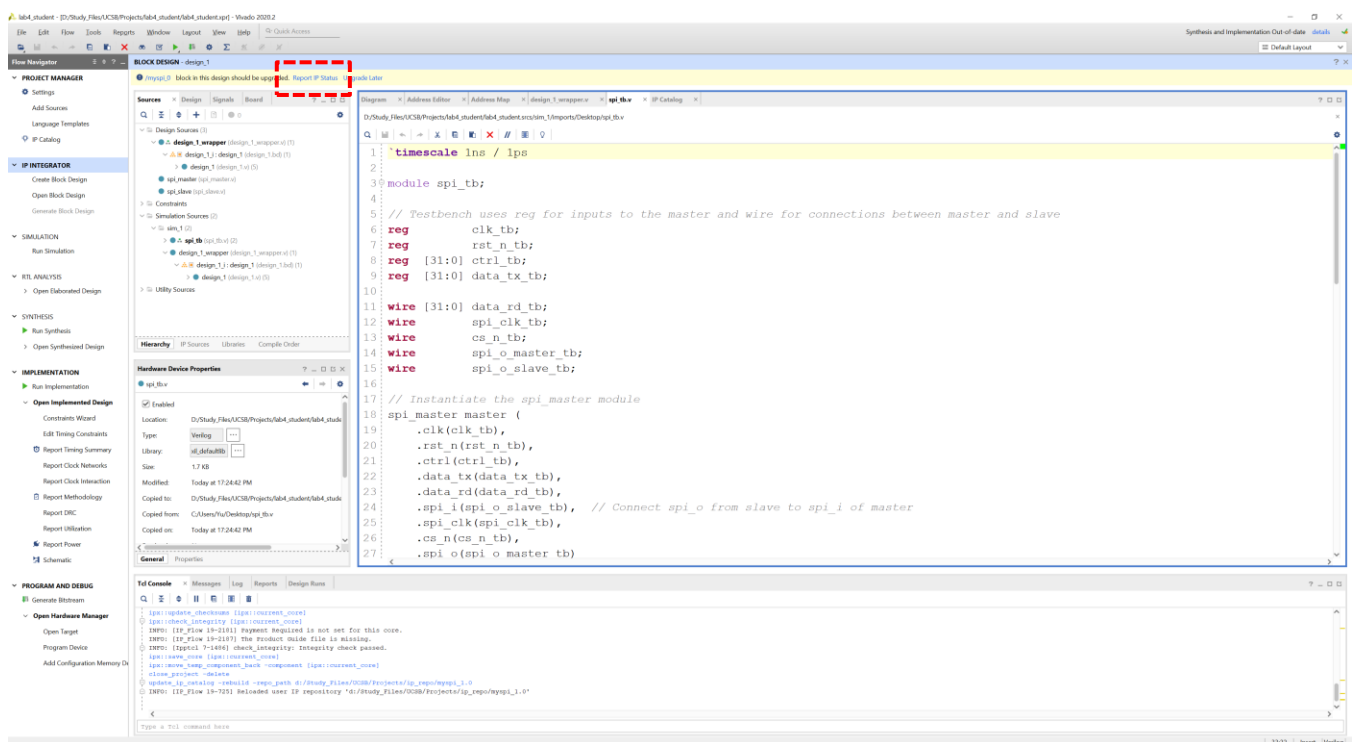
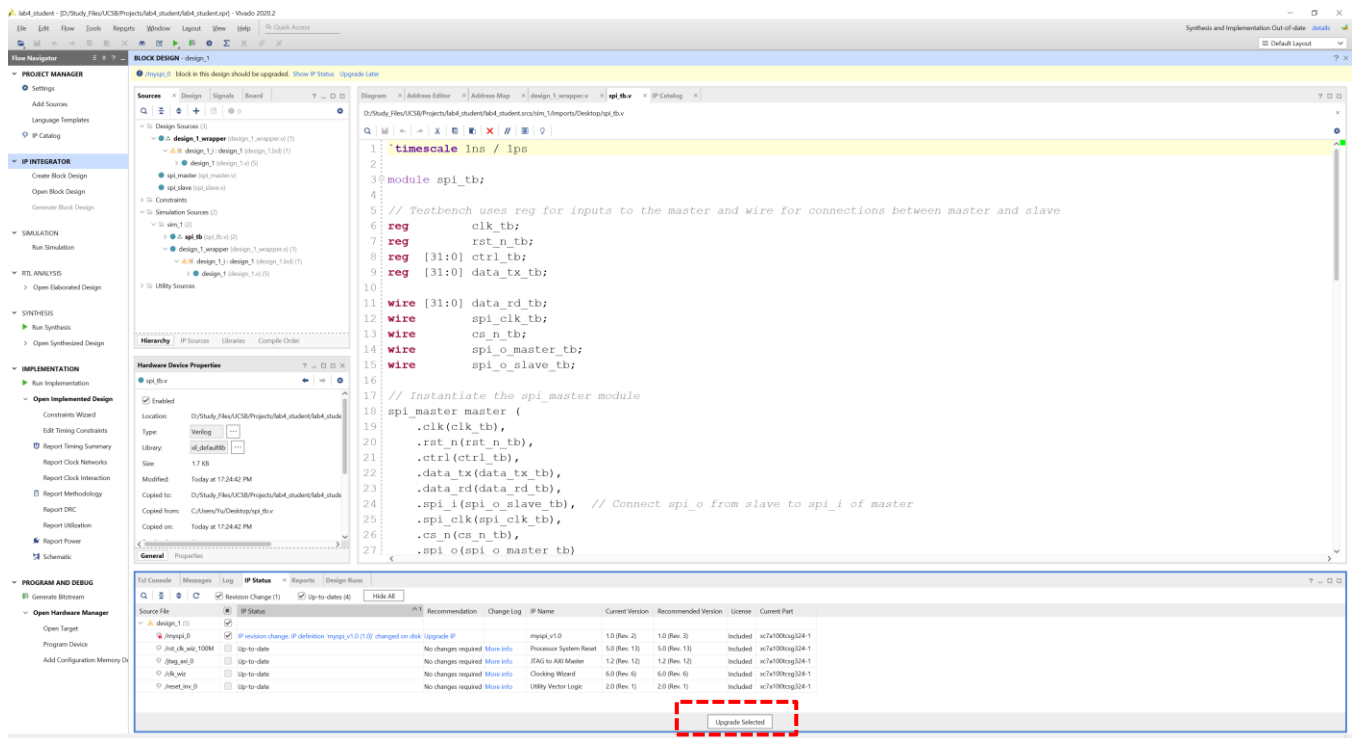

Figure 15: Return to original design and report IP status.
Figure 16: Return to original design and report IP status (cont).
- 1) You will be notified that you need to report the IP status, as in Figure 15. Click on “Upgrade Selected”, as in Figure 16. In the popped window named “Generate Output Product”, click “Skip”.